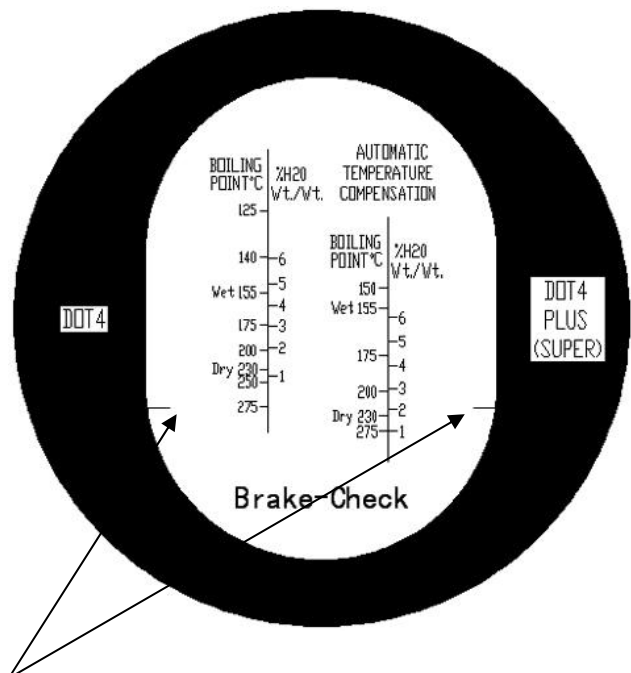

Fig. 2 - Line of Calibration
Turn the temperature adjustment (4 & fig. 1) to the current room temperature (degrees centigrade) Open the daylight plate (1). Add a few drops of calibration fluid to the prism (2). Close the daylight plate and make sure the fluid completely covers the prism (there should be no air bubbles or dry spaces). Wait for approx. 30 seconds for the calibration fluid to adjust to the room temperature. Point the refractometer towards a strong source of light and look into the eyepiece (8) Now adjust the calibration screw (5) (screwdriver is found in the box) until the border between light and blue is exactly on the line of calibration (line of calibration is illustrated in fig. 2). Always be sure that the sample you wish to test is the same temperature as the one you have calibrated and set the refractometer to.